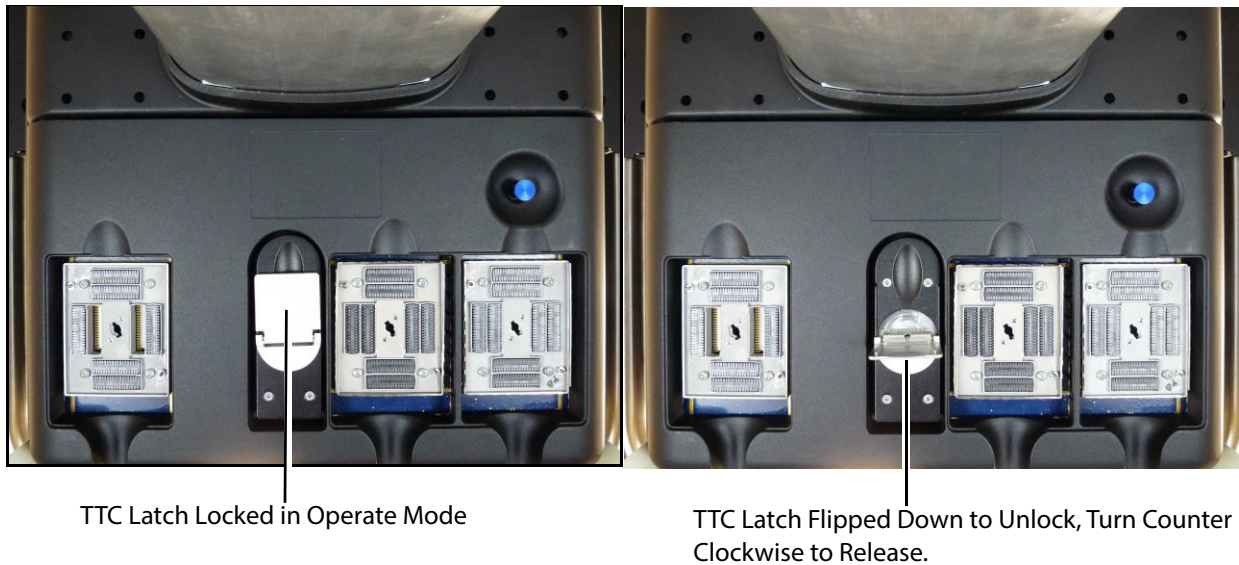

Figure 6.18 TTC Main Latch
- 1 Reach under the stand head area and unlatch the main TTC connector from the bottom of the stand head by flipping the latch handle forward and rotate counter clockwise. Refer to Figure 6.18 on page 48